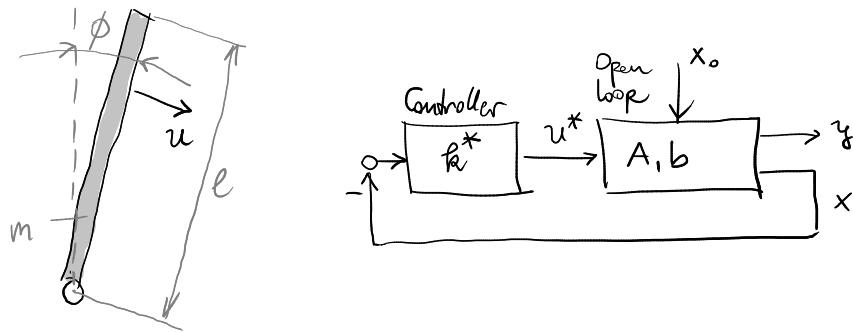

Figure 1: A simple inverted pendulum (left), where  $\phi$  and  $\dot{\phi}$  are the angular position and velocity, and a basic control block diagram (right)
We explore infinite-horizon linear-quadratic (LQ) control of a simple inverted pendulum (Figure 1). We want to find an optimal state-feedback controller  $u^* = \mathbf{k}^* \cdot \mathbf{x}$  that stabilises the pendulum rod of length  $l = 0.68$  m and mass  $m = 10.67$  kg at  $\phi = 0$  using a *minimal* momentum  $u$  applied somehow1 to the rod. The second-order state-space formulation *linearised* around the goal location  $\bar{\phi} = 0$  is given by